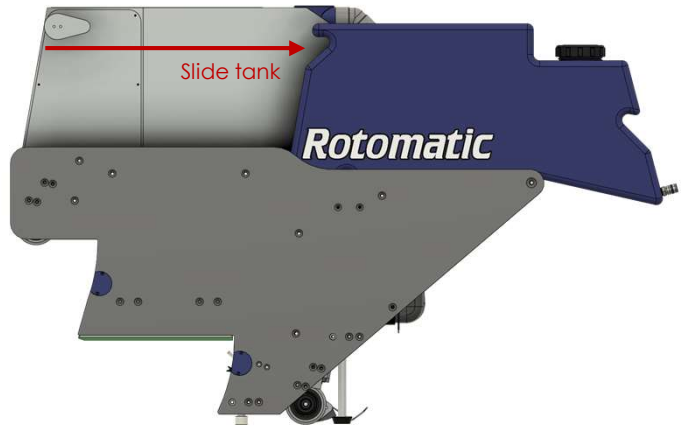
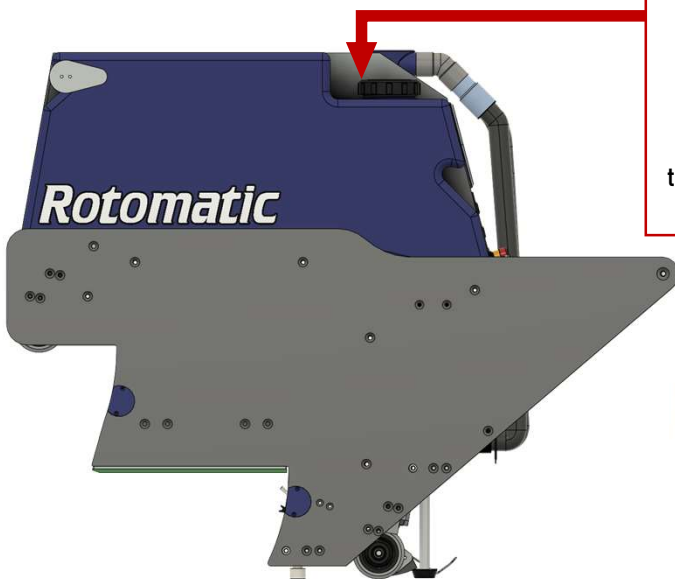

Fig. 4
Fig. 3
- Place hand behind black lid of tank and pull forward towards you (Fig 3). Allow tank to rest on machine & handle so you may obtain a steady grip on the front and rear of the tank (Fig 4).